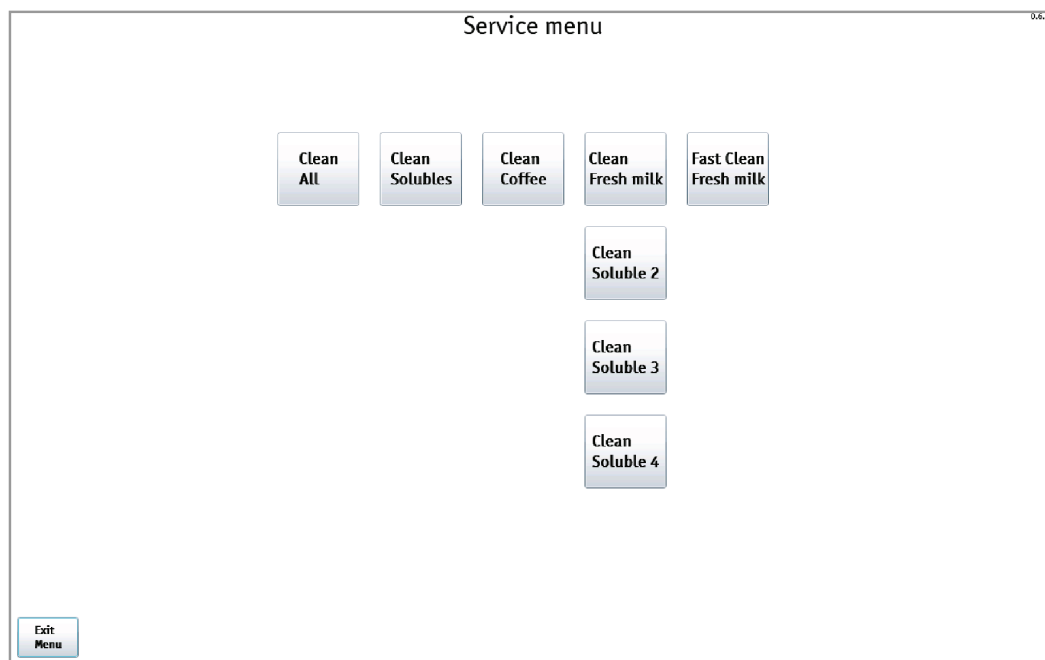

Fig.12a - Flushing (option FRESH MILK)
4. The washing menu page will appear (see fig. 12a and 12b).
5. The washing menu page will appear (see fig. 12a and 12b).